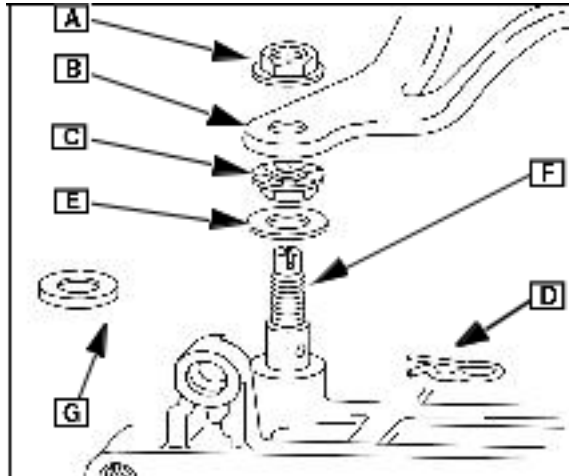

Fig. 19
Place felt seal (G) (if equipped) and thrust washer (E) on crank. Insert spring clip (D) in governor crank (F), Fig. 19.
Install lower nut (C) on governor crank (F) with serrations UP until nut bottoms on threads of the crank. Tighten nut (left hand threads), Fig. 19.
Install top nut ([A] Fig. 19) with serrations down on lever.